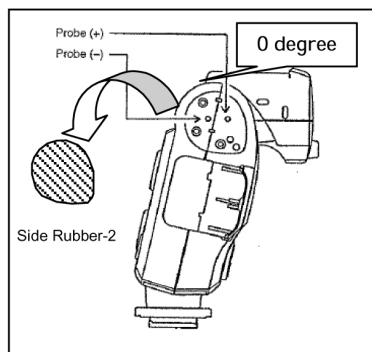

Fig.3-1
1. Peel off the "Side rubber 2" with tweezers. (See Fig.3-1)
2. Set the Bouncing angle at 0 degree. (See Fig.3-1)
5. Insert the tester probe by referring. (See Fig.3-1)
1. Set the Bounce angle at 0 degree. (See Fig.3-1)